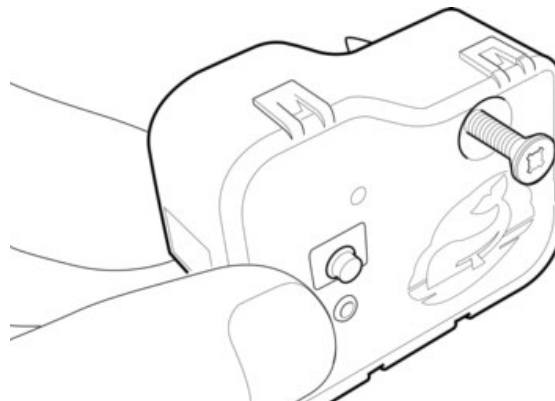

Fig. 4 Place Securing Screw into Watermaster® IC
| Fig. 4 | Place Securing Screw Into Watermaster® IC |
Step 5 - Take Watermaster® IC and place countersunk screw into screw hole (see Fig. 4)